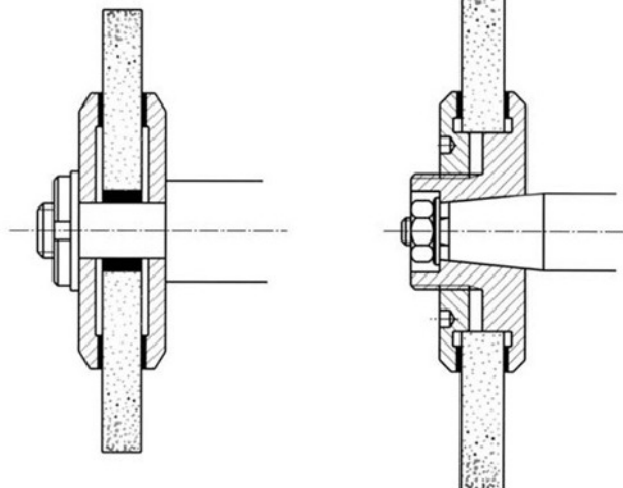

Fig. 11
- 4) Use clean, well recessed, matching flanges at least a third of the diameter of the wheel, see **fig. 11**.
- 5) Use a clean, smooth blotter on each side of the wheel under each flange, see **fig. 11**.